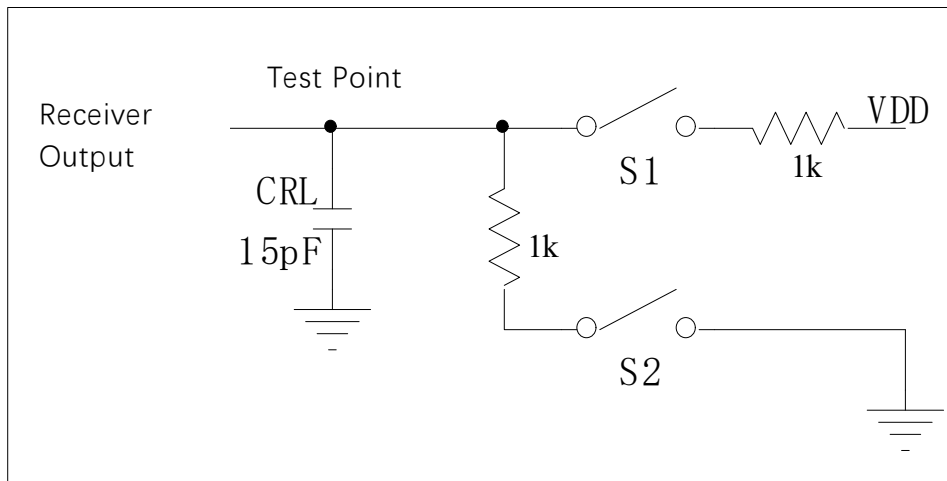

Figure 5 Receiver Enable/Invalid Timing Test Circuit
- (5) Test circuit is shown in Figure 5